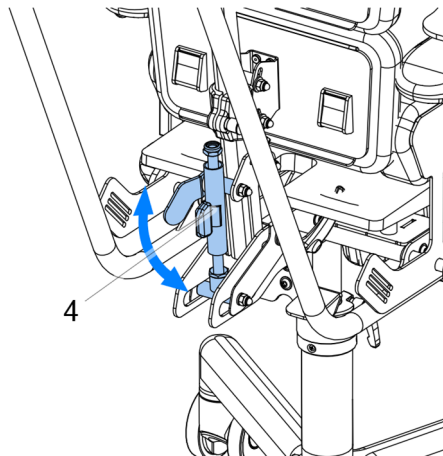

Fig. 8
To change the angle of the backrest, the lever (4) Fig. 8 should be turned and hold, the required angle position should be adjusted manually, and then the lever should be released.